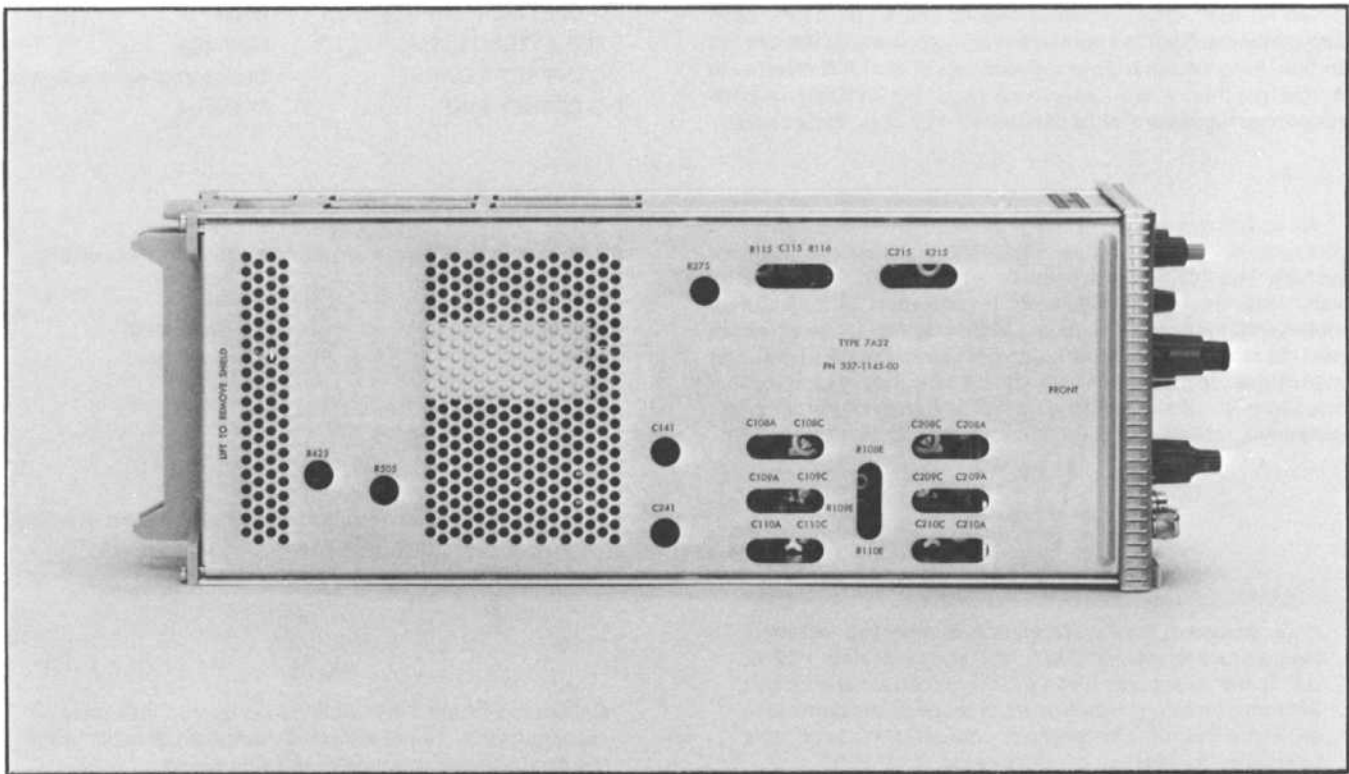

Fig. 5-1. Left side of the 7A22 showing adjustment locations.
- ADJUST—AC Step Atten Bal control, R505, (see Fig. 5-1) to position the trace within 1.5 div of graticule center.
- ADJUST—Variable Bal control, R425, (see Fig. 5-1) for no trace shift while rotating the VARIABLE control.
- ADJUST—Coarse DC Bal, R275, (see Fig. 5-1) to position the trace to graticule center.
- e. ADJUST—The +Gate Current Zero control, R115, (see Fig. 5-1), to position the trace to graticule center.
- e. ADJUST—The -Gate Current Zero control, R215, (see Fig. 5-1), to return the trace to graticule center.